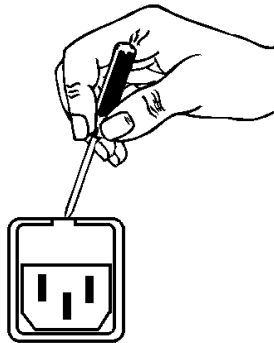

Figure 1 Checking the Main Fuse
1. Open the fuse compartment door in the AC power input housing with a small flat-blade screwdriver (Figure 1). Carefully pull out the fuse carrier.